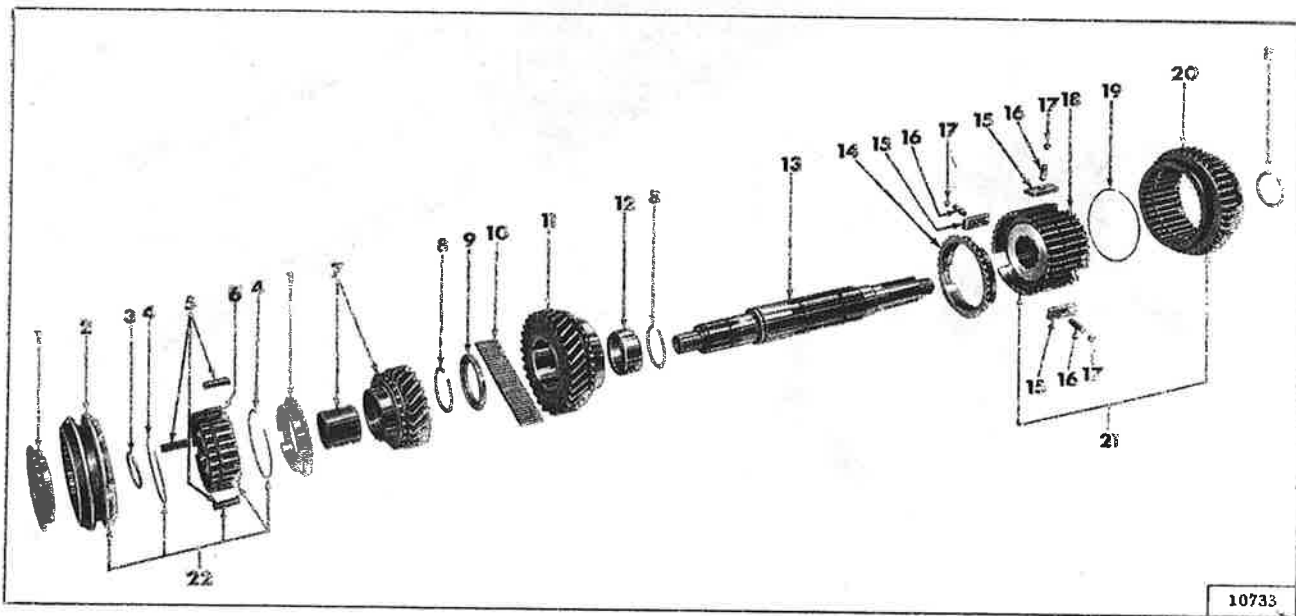
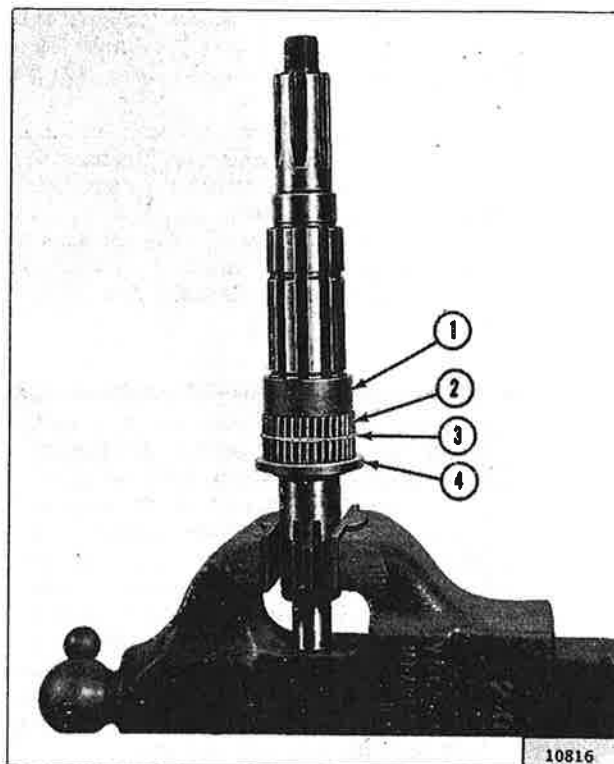

FIG. 194—FOUR-SPEED TRANSMISSION MAIN SHAFT
FIG. 199—SECOND-SPEED GEAR ASSEMBLY
c. Begin assembly of the second speed synchronizer assembly (see Fig. 194) by installing the low-and-second-speed clutch hub in the low-and-second-speed gear. Install the retaining ring (19) in the speed gear. Install the retaining ring in the low and
Place a rubber band around the second-speed gear bearing surface on the shaft. Install the thirty-four bearing rollers Fig. 194 around the shaft. See Fig. 199. Install spacer on the shaft. With the tapered shoulder of the second-speed gear up, slide gear on the shaft far enough to hold the bearing rollers in place. Remove the rubber band and slide the gear down onto the thrust washer. Install the rear